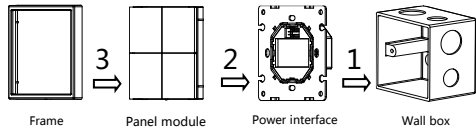

Figure 11. Installation
**Installation - See Figure 11**
Installation	Wall box (See Figure 11)